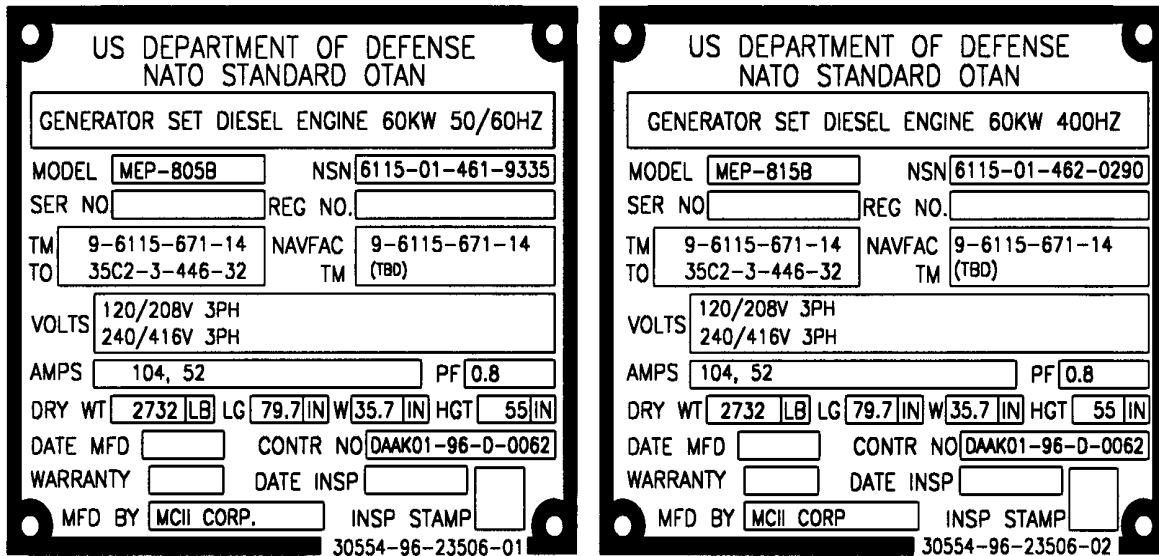

FIGURE 1. IDENTIFICATION PLATE, MEP 805-B AND MEP 815-B
- e. This TB provides information on manufacturer's warranties for generator set components. The warranty period begins on the date of generator shipment to the government, as defined by the warranty date on the generator set data plate (See Figure 1, Identification Plate).
- g. If you have difficulty with the warranty process or any questions, please contact your local CECOM LAR or the CECOM Generator Branch, DSN: 992-1313, (732) 532-1313.